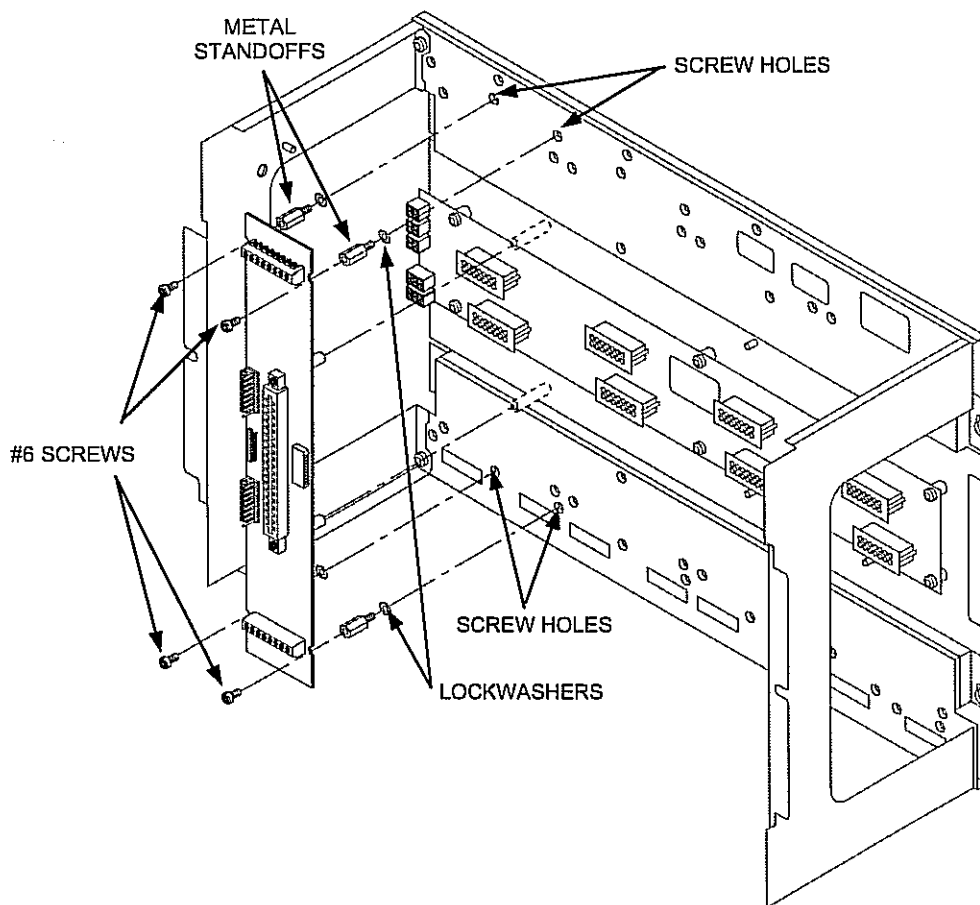

Figure 7. Installing the Motherboard in a 4100U Expansion Bay
3. Secure the motherboard to the standoffs using four #6 torx screws as shown in Figure 7.